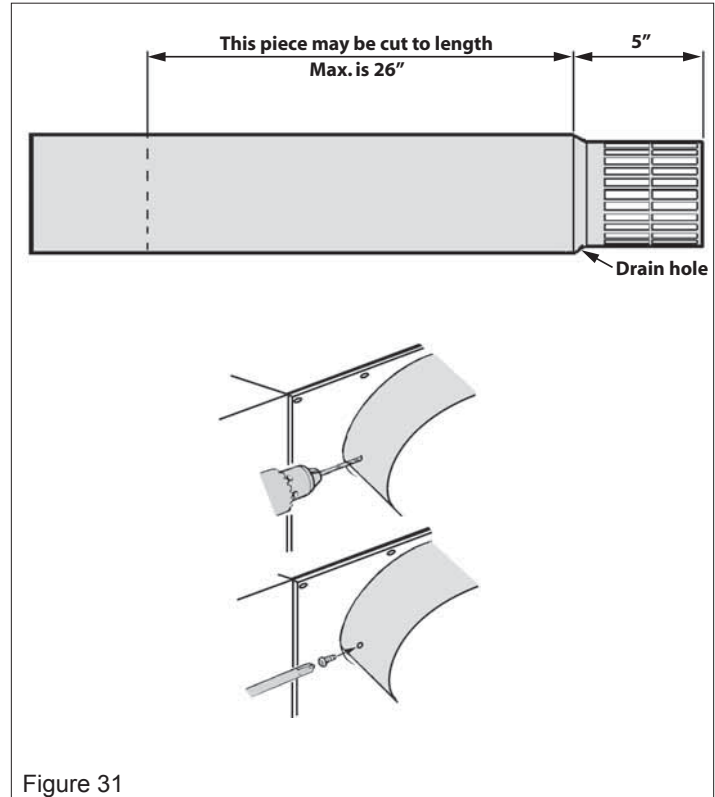

Figure 31
1. Cut the vent terminal pipe unit to size. See figure 31.
4. Drill through the terminal outer tube and appliance outer collar for #6 screws. See figure 31. **Make sure that the drill does not penetrate the inner tubes.**
5. Secure the terminal to the outer collar with two #6 thread-cutting screws supplied. See figure 31.